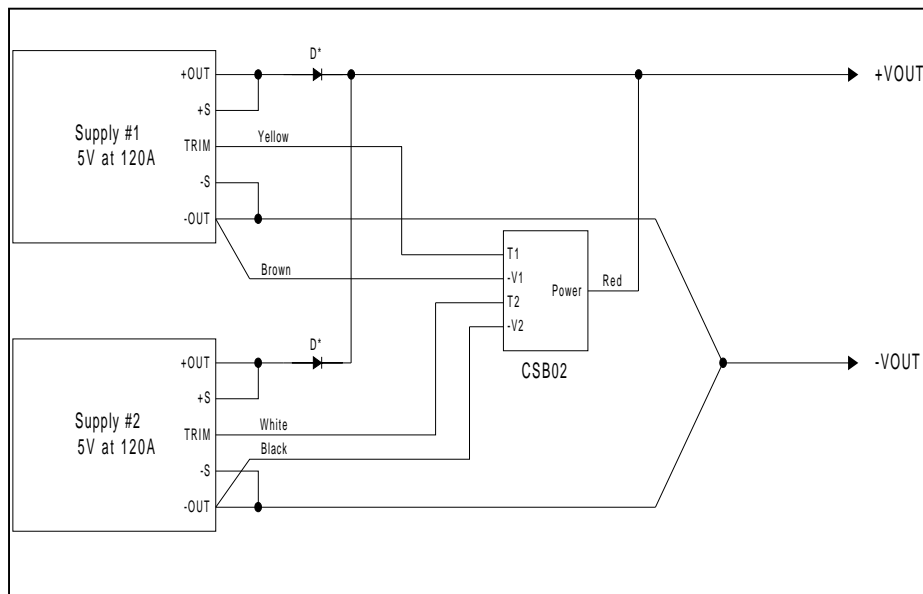

Figure 1. CSB Interconnect Example
- 2) –Out conductors must be of equal length and wire gauge. Separate –Out conductors must be used from each supply to the load, or the use of a “Y” connection to a common point must be used as shown in figure 1. Each leg of the “Y” must have a minimum of a few millivolts of drop in order for proper operation. 50mV to 100mV of drop will provide from 5% to 1% accuracy.
- 6) Terminate Sense Leads either locally or remotely as shown in figure 1.